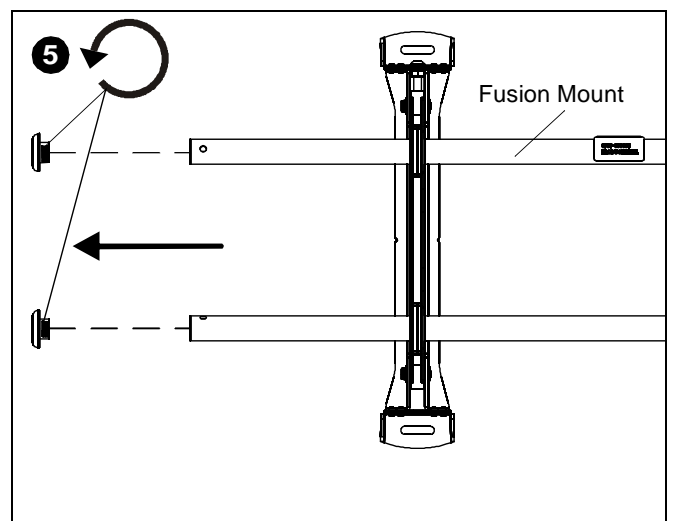

Figure 4
5. Remove end caps from wall mount rails. (See Figure 4)